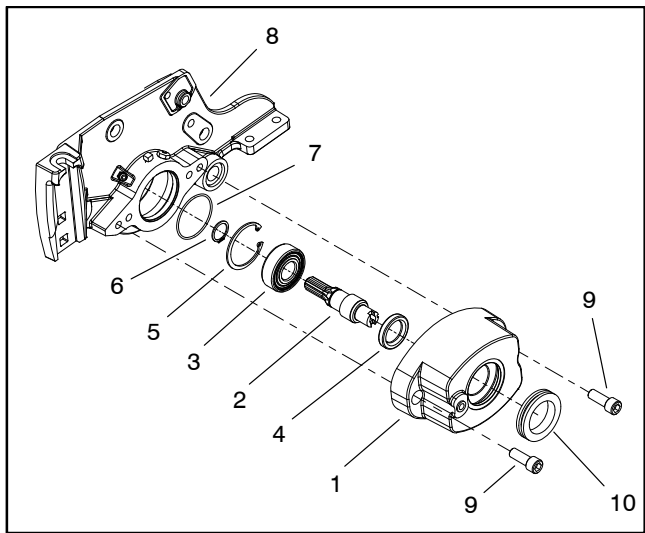

Figure 57
3. If drive bearing housing was disassembled, install new components noting proper orientation as shown in Figures 57 and 58.